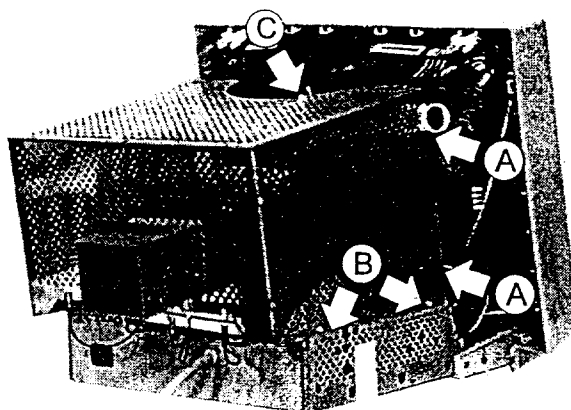

Figure 2-3 Remove the Top Shield & Rear Shield
3. Disconnect the two ground wires from the top shield. Refer to the figure 2-3 (A).
4. Remove the two screws at the top shield. Refer to the figure 2-3 (B).
5. Release the cord cramp from the top shield. Refer to the figure 2-3 (C).